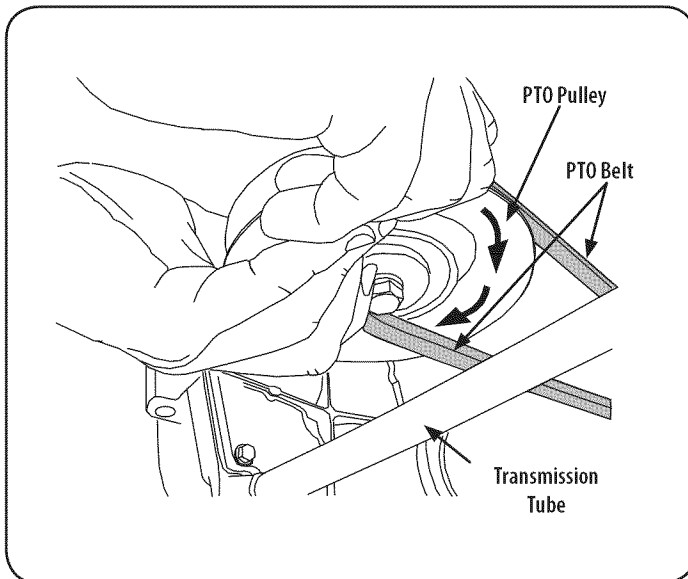

Figure 26
- d. While still holding the belt downward, continue turning the PTO pulley until the belt is rolled off the pulley. Refer to Figure 26.
11. Pull the right side of the belt rearward and place the narrow V side of the belt into the PTO pulley. See Figure 26.
12. While holding the belt and pulley together, rotate the pulley to the left (See Figure 26). Continue holding and rotating the pulley and belt until the belt is fully rolled into the PTO pulley.